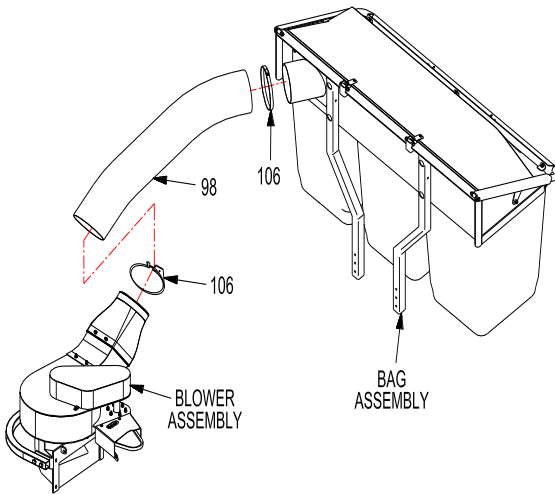

FIG 13
3.8 Blower Tube Assembly (FIG 13)